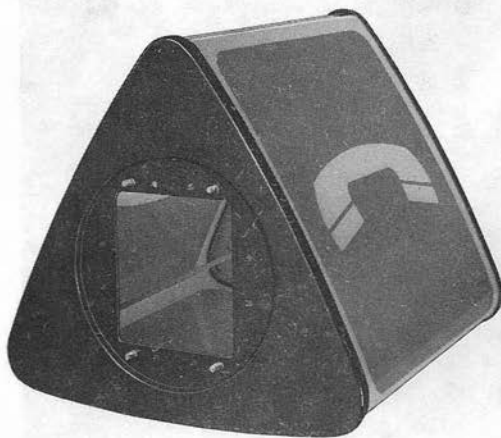
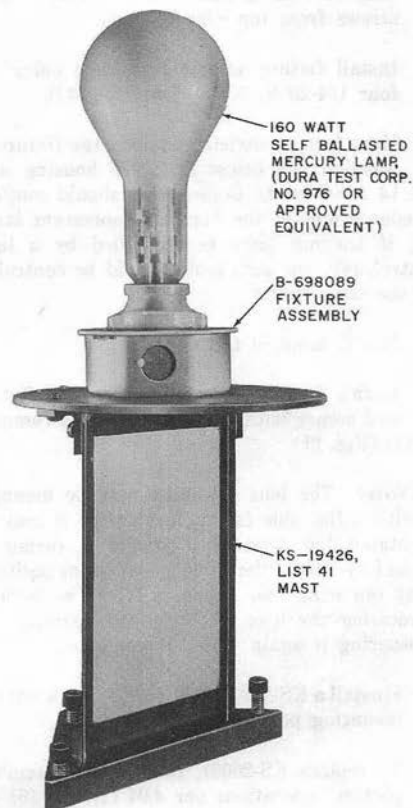
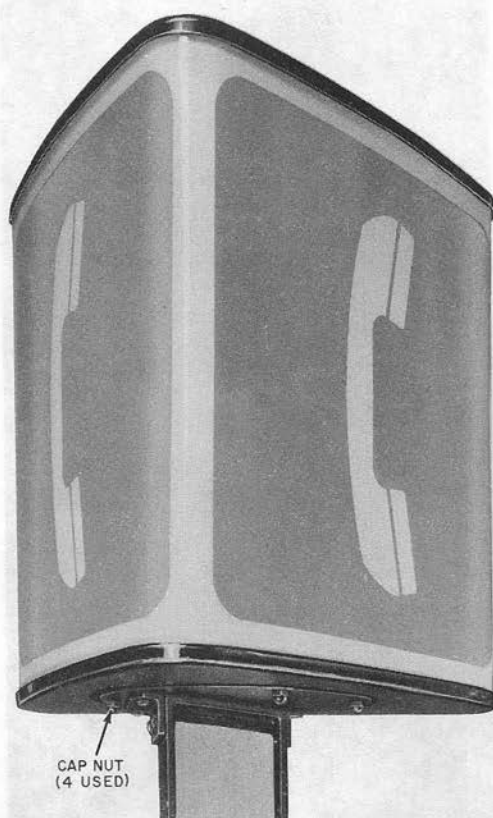

Fig. 16—KS-20031, List 2 Lens Assembly—Bottom View
Fig. 17—Fixture and Lamp—Component of KS-20031 Signs
Fig. 21—Mounting Hardware for KS-20031, List 1 Sign Mounted on KS-19426, List 39, 40 or 41 Mast
- (a) Consists of a KS-20031, List 2 polycarbonate plastic lens assembly (Fig. 16) and fixture assembly (Fig. 17).
Note: The List 2 lens assembly (Fig. 16) must be removed from the fixture assembly (Fig. 17) before installation.
- (1) Remove four cap nuts which secure lens to base.
- (2) Remove four 1/4-20 by 5/8 Phillips RHM screws from top edge of mast.
- (3) Install fixture assembly to mast using the four 1/4-20 by 5/8 screws (Fig. 17).
- (4) Have local electrician connect the fixture to junction box below KS-19426 housing with No. 14 AWG wire. Connections should conform to connections of the housing fluorescent lamp, ~~ie~~; if housing lamp is controlled by a light control unit, the sign lamp should be controlled by the same unit.
- (5) Install lamp in fixture.
- (6) Install List 2 lens assembly over fixture and secure with the four cap nuts removed in (1) (Fig. 21).